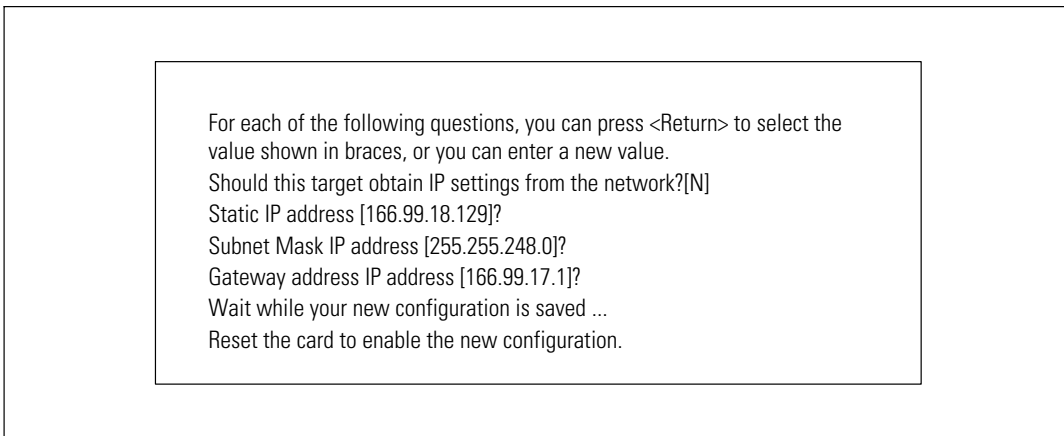

Figure 42. Modify Network Settings
- **Modify Network settings:** To modify existing network parameters (see Figure 42). Restart the card to activate the new parameters. In DHCP mode, the card can receive the following parameters according to the DHCP server settings: